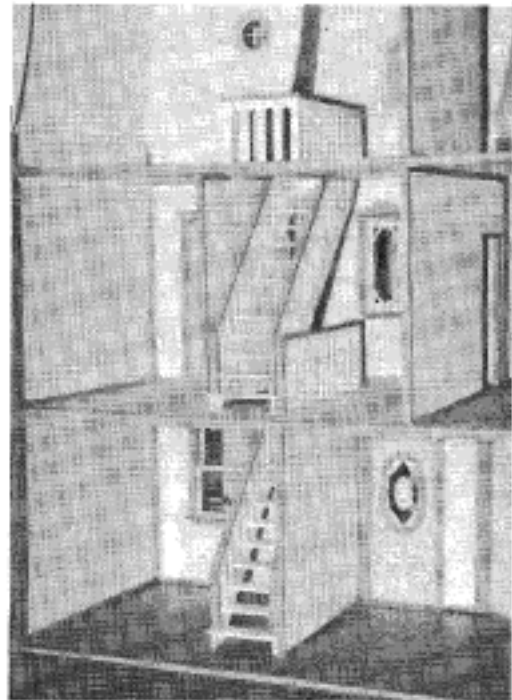

Figure 37
2. These Partitions are also 9 3/4" tall. Use Small Edge Trim to cover the edges of the sides and the doorway. See Figure 37.
4. Glue Rails in place as in Figure 37.